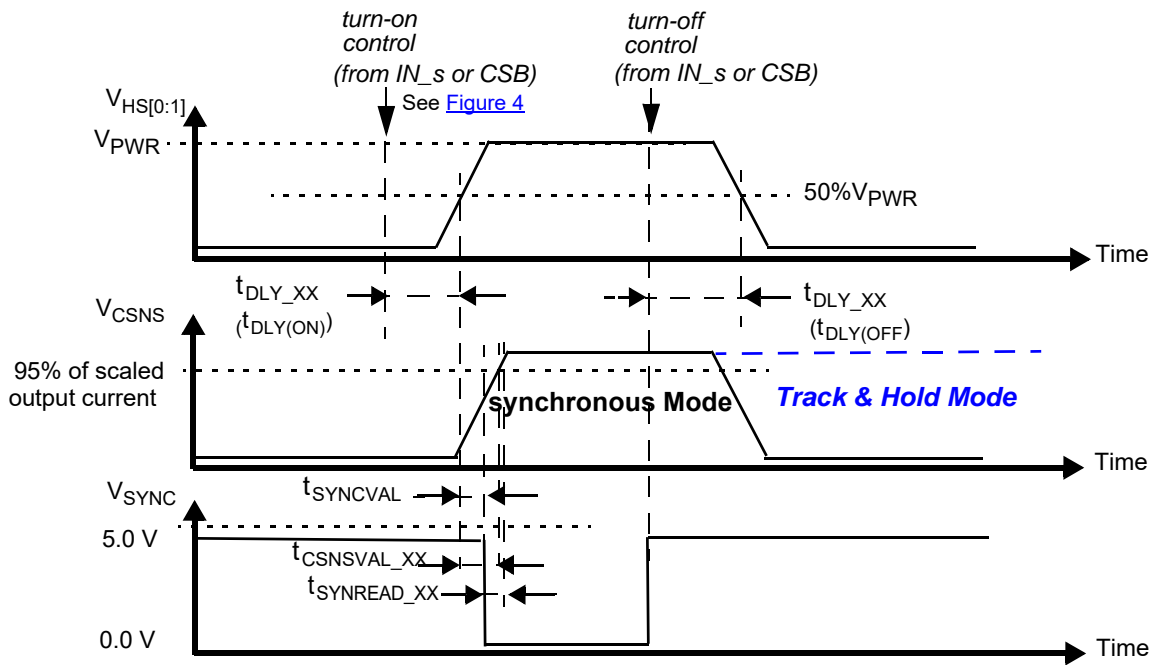

Figure 9. Synchronous and Track-and-Hold current sensing modes: associated delay and settling times
30. Time required to switch off the channel after detection of overtemperature (OT), overcurrent (OC), SC or UV error (time measured between start of the negative edge on the FSB pin and the falling edge on the output voltage until  $V(\text{HS}[0:1]) = 50\%$  of  $V_{PWR}$ ).
31. Settling time ( $= t_{CSNSVAL\_XX}$ ), SYNC output signal delay ( $= t_{SYNCVAL\_XX}$ ) and Read-out delay ( $= t_{SYNREAD\_XX}$ ) are defined for a stepped load current using a  $10\ \Omega$  resistive load for  $\text{CSNS\_RATIO}_s = 0$ . (see Figure 9 and Output current monitoring \(CSNS\)).
The CS pin allows independent current monitoring of channel 0 or channel 1 up to the steady state overcurrent threshold. It can also be used to sense the device temperature. The different functions are selected by setting bits CSNS1\_en and CSNS0\_en to the appropriate value (Table 23). When the CSNS pin is sensed during switch-off in the (optional) track & hold mode (see Figure 9), it outputs the scaled value of the load current as it was just before turn-Off. When several devices share the same pull-down resistor, the CSNS pins of devices the current of which is not monitored must be tri-stated. This is accomplished by setting CSNS0\_en = 0 and CSNS1\_en = 0 in the GCR register (Table 10). Settling time ( $t_{CSNSVAL\_XX}$ ) is defined as the time between the instant at the middle of the output voltage's rising edge ( $HS[0:1] = 50\%$  of  $V_{PWR}$ ), and the instant at which the voltage on the CSNS-pin has settled to  $\pm 5.0\%$  of its final value. Anytime an overcurrent window is active, the CSNS pin is disabled (see Overcurrent detection on resistive and inductive loads). The current and temperature sensing functions are unavailable in Fail-safe mode and in Normal mode when operating without the  $V_{DD}$  supply voltage. In order to generate a voltage output, a pull-down resistor is required ( $R(CSNS)=1.0\text{ k}\Omega$  typ. and  $470 < R(CSNS) < 10\text{ k}$ ). When the current sense resistor connected to the CSNS pin is disconnected, the CSNS voltage is clamped to  $V_{CL(CSNS)}$ . The CSNS pin can source currents up to about 5.6 mA.
To synchronize current sensing with an external process, the SYNC signal can be connected to a digital input of an external MCU. SYNC is asserted logic low when the current sense signal is accurate and ready to be read. The current sense signal on the CSNS pin has the specified accuracy  $t_{SYNREAD\_XX}$  seconds after the falling edge on the SYNC pin (Figure 9) and remains valid until a rising edge is generated. The rising edge that is generated by the SYNC pin at the turn-OFF instant (internal or external) may also be used to implement synchronization with the external MCU. Parameter  $t_{SYNVAL\_XX}$  is defined as the time between the instant at the middle of the output-voltage rising edge ( $HS[0:1] = 50\%$  of  $V_{PWR}$ ), and the instant at which the voltage on the SYNC-pin drops below 0.4 V ( $V_{SOL}$ ). The SYNC pins of different devices can be connected together to save  $\mu$ -controller input channels. However, in this configuration, the CSNS function of only one device should be active at a time. Otherwise, the MCU does not determine the origin of the SYNC signal. The SYNC pin is open drain and requires an external pull-up resistor to  $V_{DD}$ .